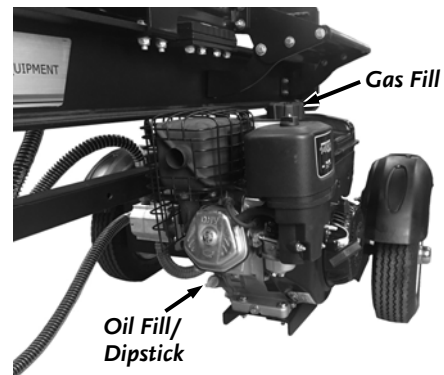

Figure 28
1. Position the machine so the Engine is level. Remove the Oil Fill/Dipstick and clean the end of it with a rag (**Figure 28**).
6. Remove the Gas Fill Cap and fill the Gas Tank with fresh, unleaded gas (with a minimum of 85 Octane) to approximately 1" to 1-1/2" below the top of the fill neck to allow for fuel expansion (**Figure 28**). Be careful not to overfill. Install the Gas Fill Cap before starting the engine. See your Engine Owner's Manual for more detailed information.